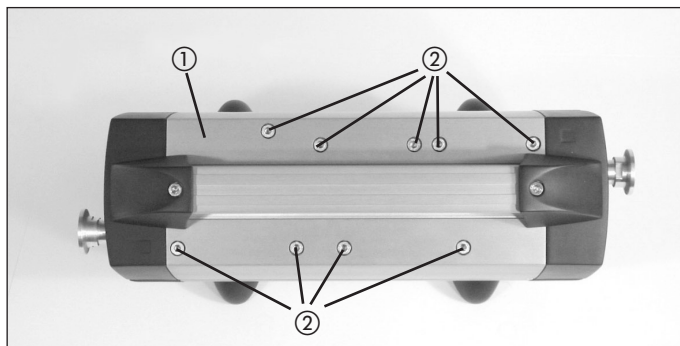

Fig. 4: Servicing level 1: before disassembling
- The numbered positions within the following operating instructions refer to figs. 4 to 7.
- ➌ Undo the 9 screws ➋ in the head cover ➊ and lift the head cover off the pump housing ➍ (see fig. 4).